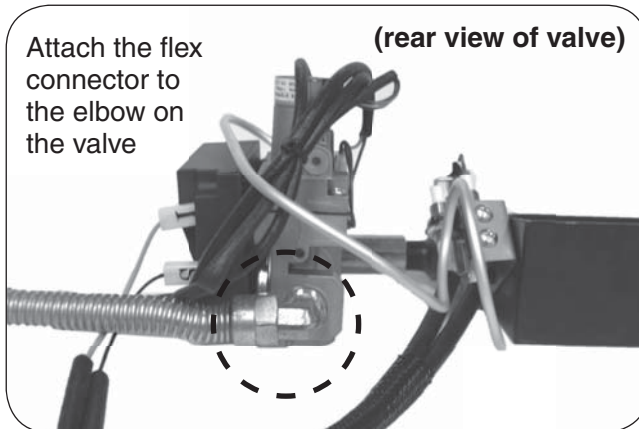
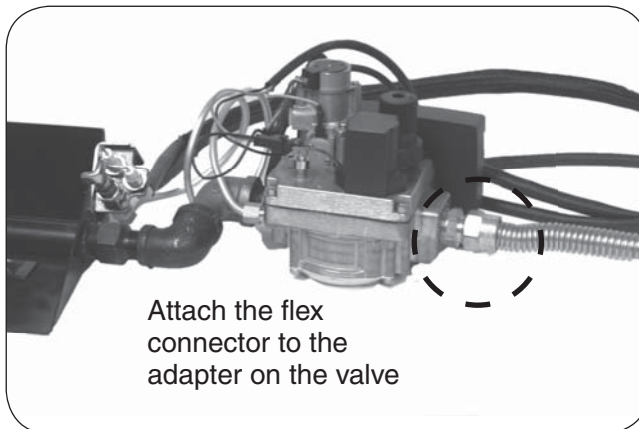

Fig. 9-2 2V models: Attach flex to valve
Fig. 9-3 3V models: Attach flex to valve
2. The valve is shipped with the pilot supply tube bent in an ideal manner to prevent damage / unsafe operation, and to allow for proper heat shield placement. Maintain this orientation at all times (reference Fig. 9-2 or 9-3).
2. Attach the flex connector to the elbow/adapter on the control valve (see Fig. 9-2 or Fig. 9-3). Use Teflon tape or pipe compound. Tighten securely. (Discard the smaller connector adapter from the connector kit, as this is not needed.)